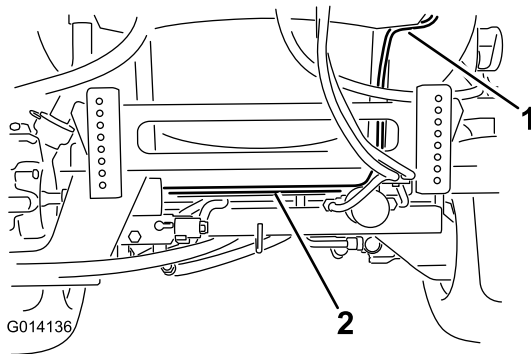

Figure 14
1. Locate the electrical harness coming from the hose reel control box. Route the longer end of the harness with the ring terminals and a fuse connector across the rear of the tank skid and vehicle frame behind the boom actuator bracket (Figure 14). Use a plastic tie to secure the harness to the frame.